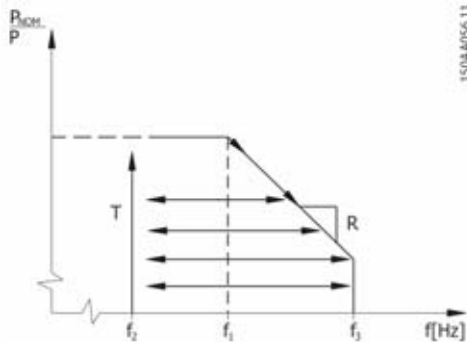

Figure 2.10 Primary frequency control - hysteresis method
See figure 2.10.
To support power frequency stabilization, the inverter reduces its output power if the power frequency exceeds f_1 . Reduction occurs at a preconfigured rate which is ramp (R) shown in figure 2.10. The reduced output power limit is maintained until the grid frequency has decreased to f_2 . When the power frequency has decreased to f_2 , the inverter output power increases again following a time ramp T. If the power frequency continues to increase, the inverter disconnects at f_3 . When the frequency decreases below f_2 , the inverter is reconnected to the grid and increases power at the same rate as for the reduction.